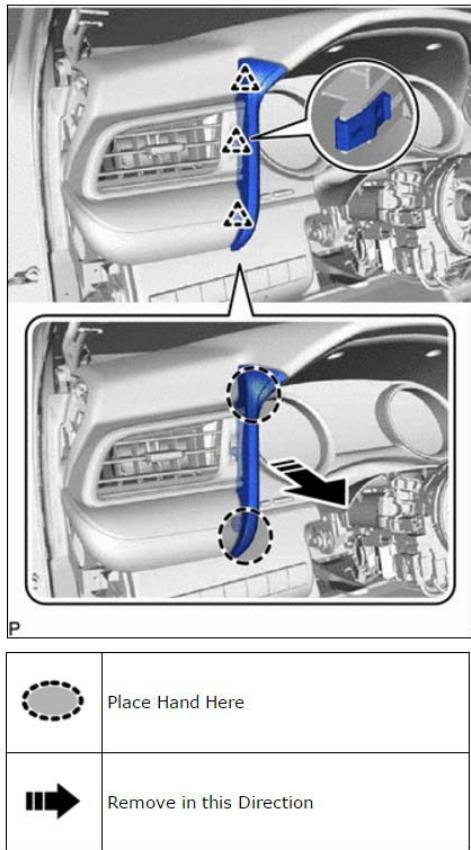

Figure 11
- (a) Disengage the 3 clips to remove the No. 2 meter hood cluster as shown in Figure 11.